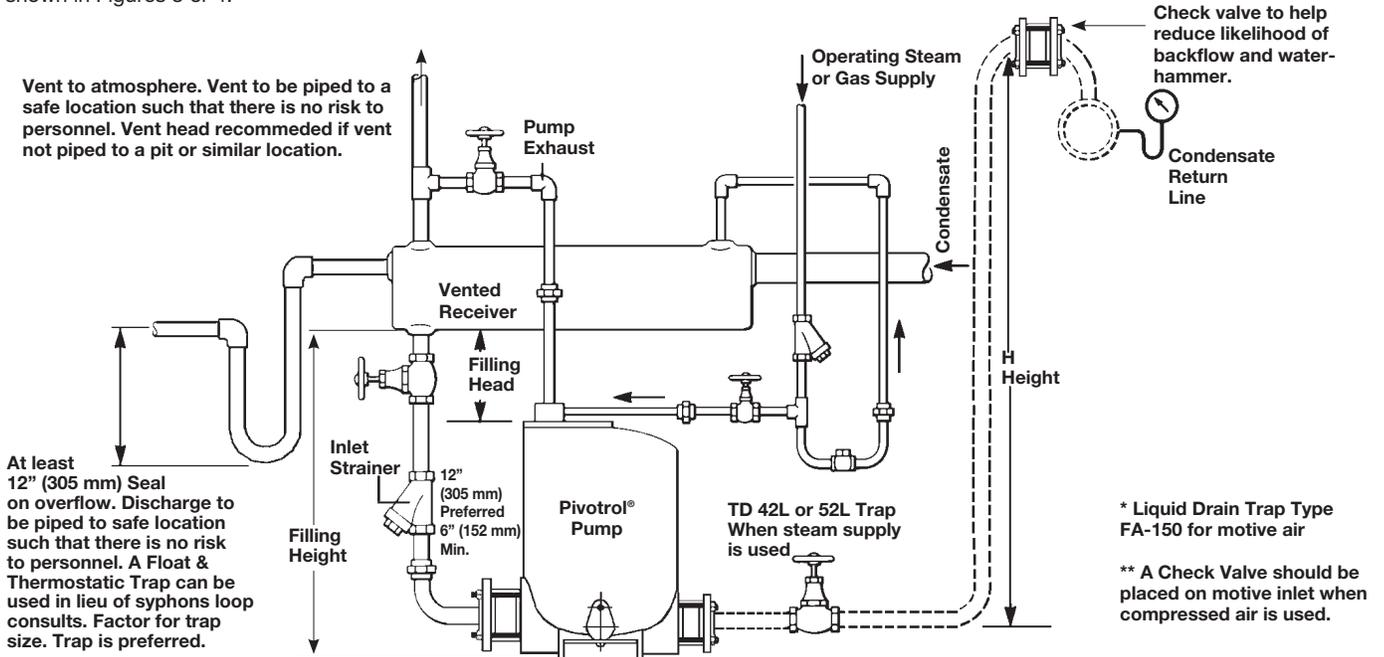

Figure 3
To drain condensate from single or multiple sources in an open system, a vented receiver should be installed in a horizontal plane ahead of the pump. Sufficient volume is needed above the filling head level to accept the condensate reaching the receiver during the pump discharge stroke. More importantly, the receiver must be sized to allow sufficient area for complete flash steam separation from the condensate. By sizing the receiver appropriately, there will be sufficient volume for condensate storage and sufficient area for flash steam separation. The receiver can be a length of large diameter pipe or a tank. A receiver overflow piping should be installed as shown in Figures 3 or 4 and piped to a suitable drain. The piping must form a loop type water seal at least 12" (305 mm) deep immediately after the receiver.
1. Install the pump physically below the receiver to be drained with the exhaust connection vertically upwards. Pump should be installed with the recommended filling head (the vertical distance between the top of the pump and the bottom of the receiver) as shown in Figures 3 or 4. For other filling head variations, see the capacity table on TI-5-030- US.
2. To prevent equipment flooding during the pump discharge stroke, a vented receiver should be installed in a horizontal plane ahead of the pump as shown in Figures 3 or 4. All inlet line fittings must be fully ported.
5. Any horizontal runs in the exhaust line should be pitched so that the line is self-draining. The exhaust line should be piped, unrestricted, to atmosphere as shown in Figures 3 or 4.
For low specific gravity and volatile fluid pumping applications see product hook-up recommendations in Section 3.2 (Figures 3 and 4), however closed systems as described in Section 3.4 are strongly recommended by Spirax Sarco for volatile fluid applications rather than open (vented) systems as an added safety precaution.